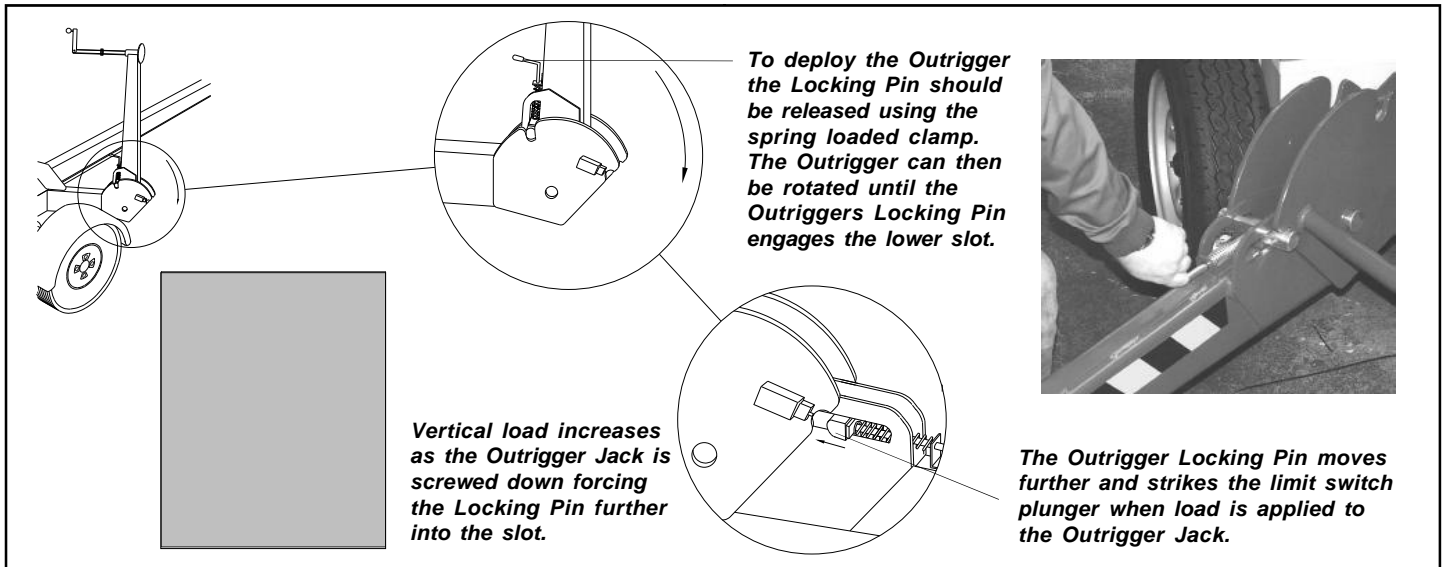

Figure 1: Deploying the Outriggers
9. Check that all four limit switches are undamaged and then taking each outrigger in turn, pull the locking pin release lever out while simultaneously lowering the outrigger leg. Ensure the locking pin snaps into position in the lower slot. (See Figure 1).
1. Pull out the locking handle and lower the Outrigger until the Locking Pin locks into position in the lower slot. Ensure the pin is completely seated in this slot. Reference Figure 1.